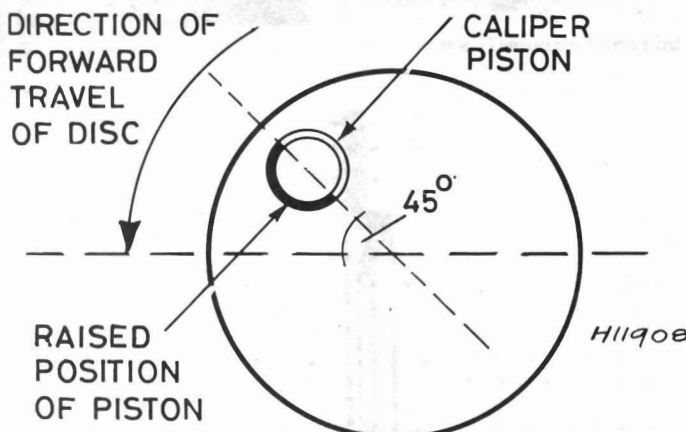

Fig. 8.5 Caliper piston step setting diagram (Sec 5)
- 11 Apply clean hydraulic fluid to the piston and cylinder bore and insert the piston squarely but only partially into the bore. Now turn the piston until the anti-squeal step is at  $45^\circ$  to the horizontal and at the lower part of the piston as shown in Fig. 8.5.